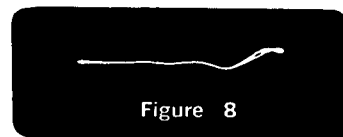

Figure 8
6. Adjust the **HOR. PHASE** on the sweep to bring the two traces (and pips) together (Figure 8). Check sweep width by changing the marker frequency so pips move from one end of the trace to the other. Set the **BANDWIDTH CONTROL** so that the sweep covers the desired band. When large changes in the sweep bandwidth are made, it will be necessary to readjust the **HOR. PHASING CONTROL** to keep the traces together.